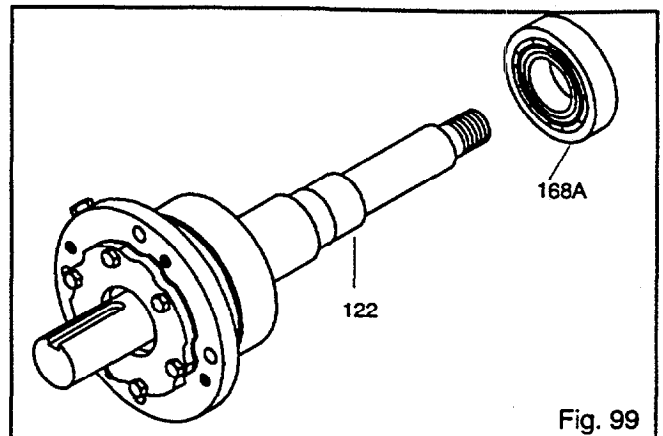

Fig. 99
8. Install inboard bearing (168A) on shaft (122) (Fig. 99).